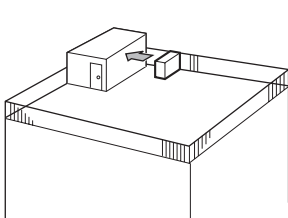

Fig. 2-3
1. Face the air outlet towards the nearest available wall about 500 mm, 19-11/16 inch away from the wall. (Fig. 2-3)